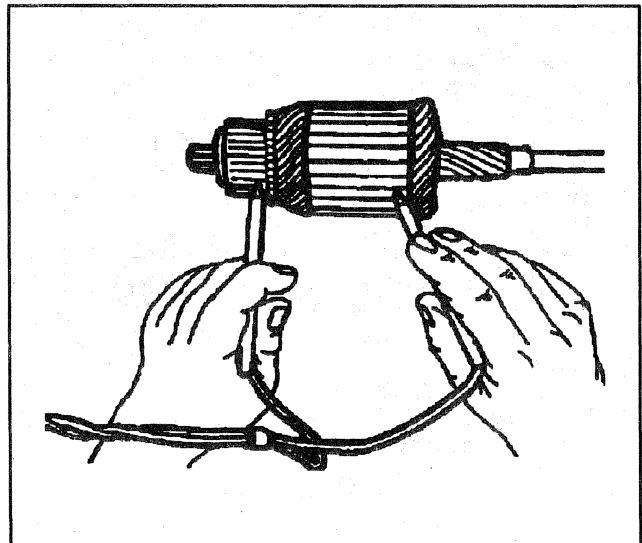

Figure 6—Testing the Armature for Grounds
6. Armature for grounds using a self-powered test lamp (Figure 6).